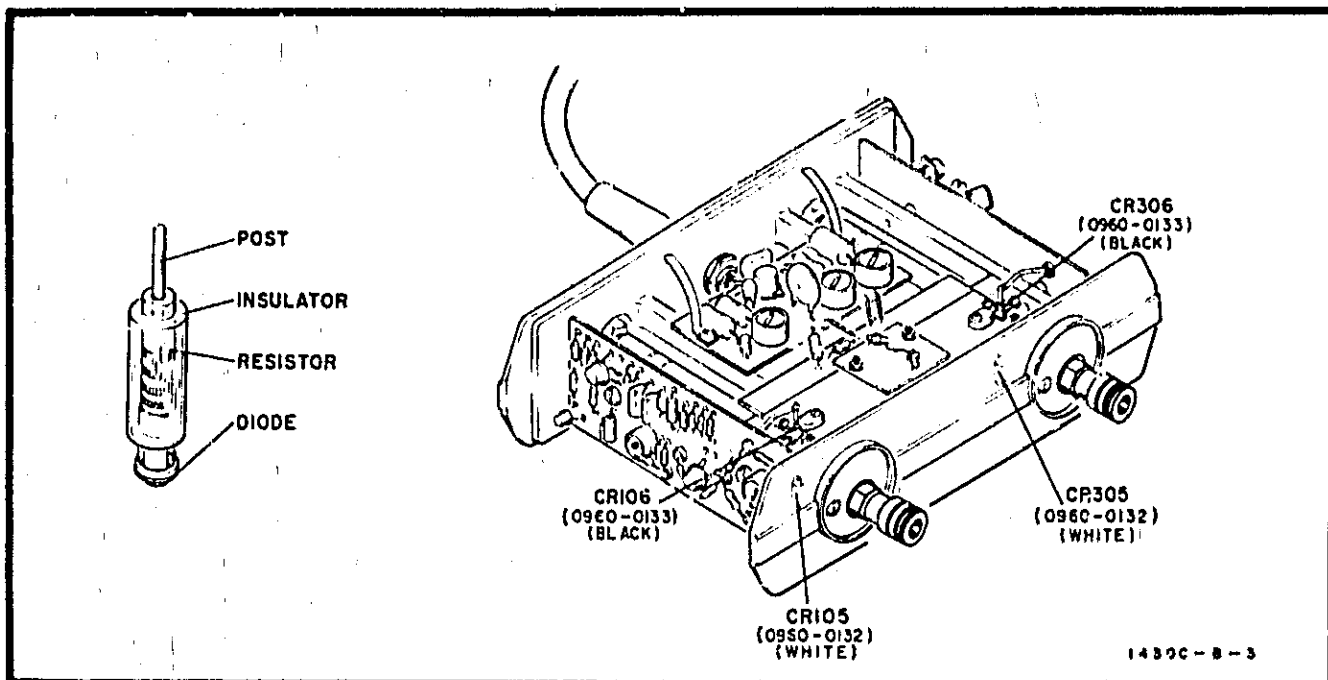

Figure 8-2. Diode and Resistor Assy
Physically, the upper and lower diodes look alike; however, they are electrically different. Figure 8-2 identifies the diodes by reference designation and HP Part No. (viewed from front and top of instrument). Always replace diodes exactly as shown. Make no attempt to further disassemble the sampler block.
b. Gently withdraw diode/insulator assembly from sampler. It should appear exactly as in figure 8-2. If glass bead is broken off, it may remain inside sampler. It must be removed before new diode assembly is inserted. To remove broken bead, turn sampler upside down and gently tap side of block. Do not bang connectors.
d. See figure 8-2 to make sure correct diode assembly is being used as replacement. Insert assembly straight into sampler. (A lateral blow is in plane most likely to break glass bead.) Glass bead will center itself in bottom of hole.
- (1). Rough handling.
- (2). Static discharge, approximately 0.2 ergs.
- (3). Soldering irons that induce 60-hertz pickup leakage currents.